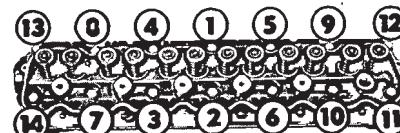

FIG. 15—Cylinder Head Bolt Torque Sequence
6. The cylinder head bolts are tightened in three progressive steps. Torque all the bolts in sequence (Fig. 15) to 55 ft-lbs, then to 65 ft-lbs, and finally to specifications. When cylinder head bolts have been tightened following this procedure, it is not necessary to retorque the bolts after extended operation. However, on cylinder heads with composition gaskets, the bolts may be checked and retorqued, if desired.